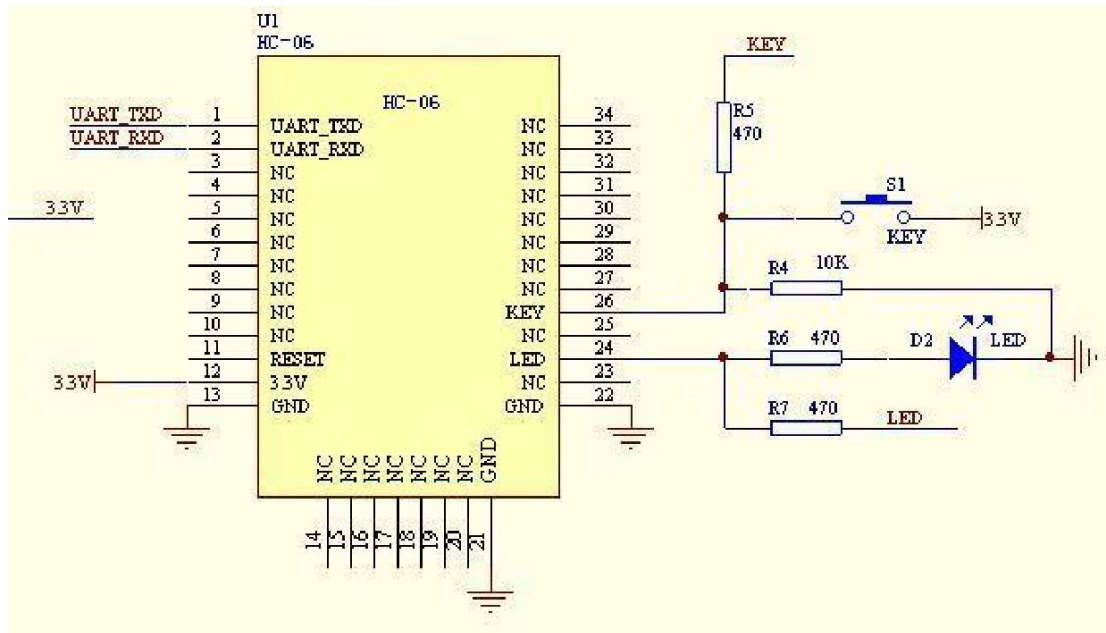

Figure 5 The circuit 1
(1) The circuit 1 (connect the module to 3.3V serial port of MCU) is showed by figure 5.